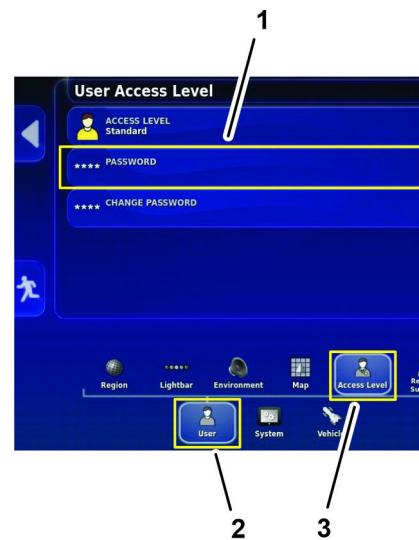

Figure 124
4. In the setup screen, press the USER icon and the ACCESS LEVEL icon (Figure 124).
5. Press the PASSWORD icon (Figure 124).